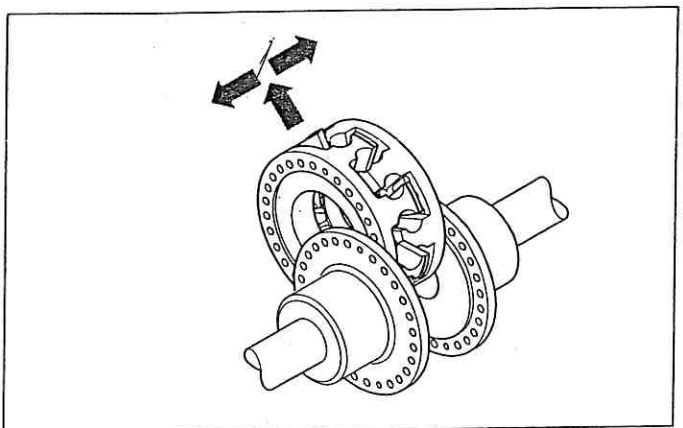

Fig. 10
- Axially compress the claw rings and lift them out radially (Fig. 10).